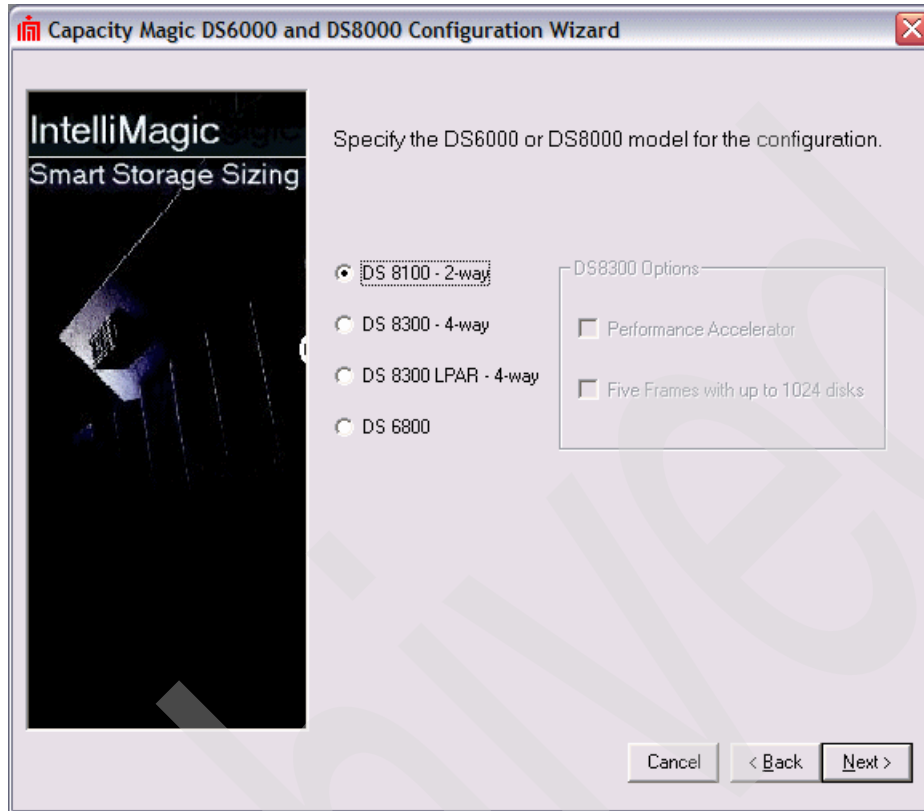

Figure 3-12 Specifying the DS model for Capacity Magic
3. After clicking **Next** in the Wizard's informational window, select which model of DS to use (Figure 3-12). In our example, we select **DS 8100 - 2-way** and click **Next**.